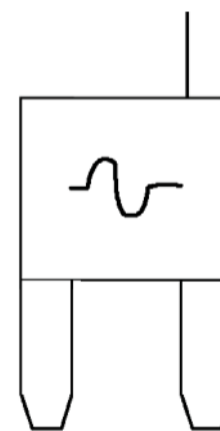
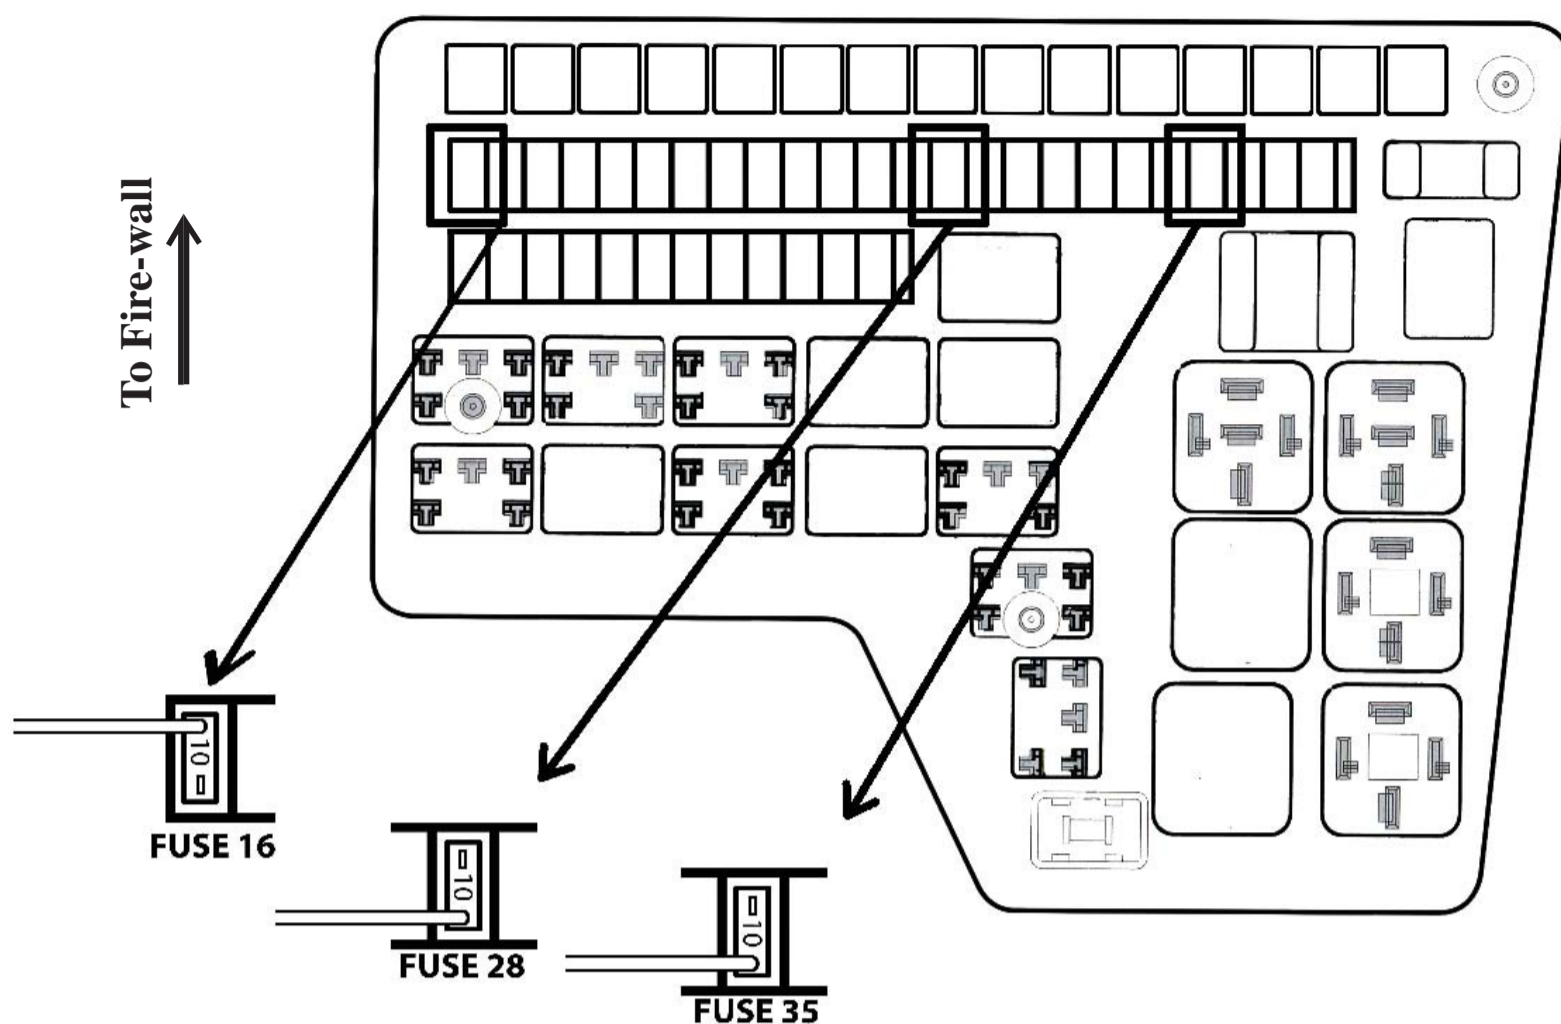

Figure 2
Figure 3 - Fuse Tap Locations
4. Insert the Leaded Fuse Links (see Figure 2). The leg with the wire soldered to it needs to plug into the “HOT” side of the fuse location. Orient the fuse exactly as shown in Figure 3 on the following page.
5. From the main harness, connect the Yellow Power Connectors to the installed Fuse Links (Figure 3)
4. Insert the Leaded Fuse Link (see Figure 2). The leg with the wire soldered to it needs to plug into the “HOT” side of the fuse location. Orient the fuse exactly as shown in Figure 3 above.
5. From the main harness, connect the Red Turbo Timer Connector to the installed Fuse Link (Figure 3)